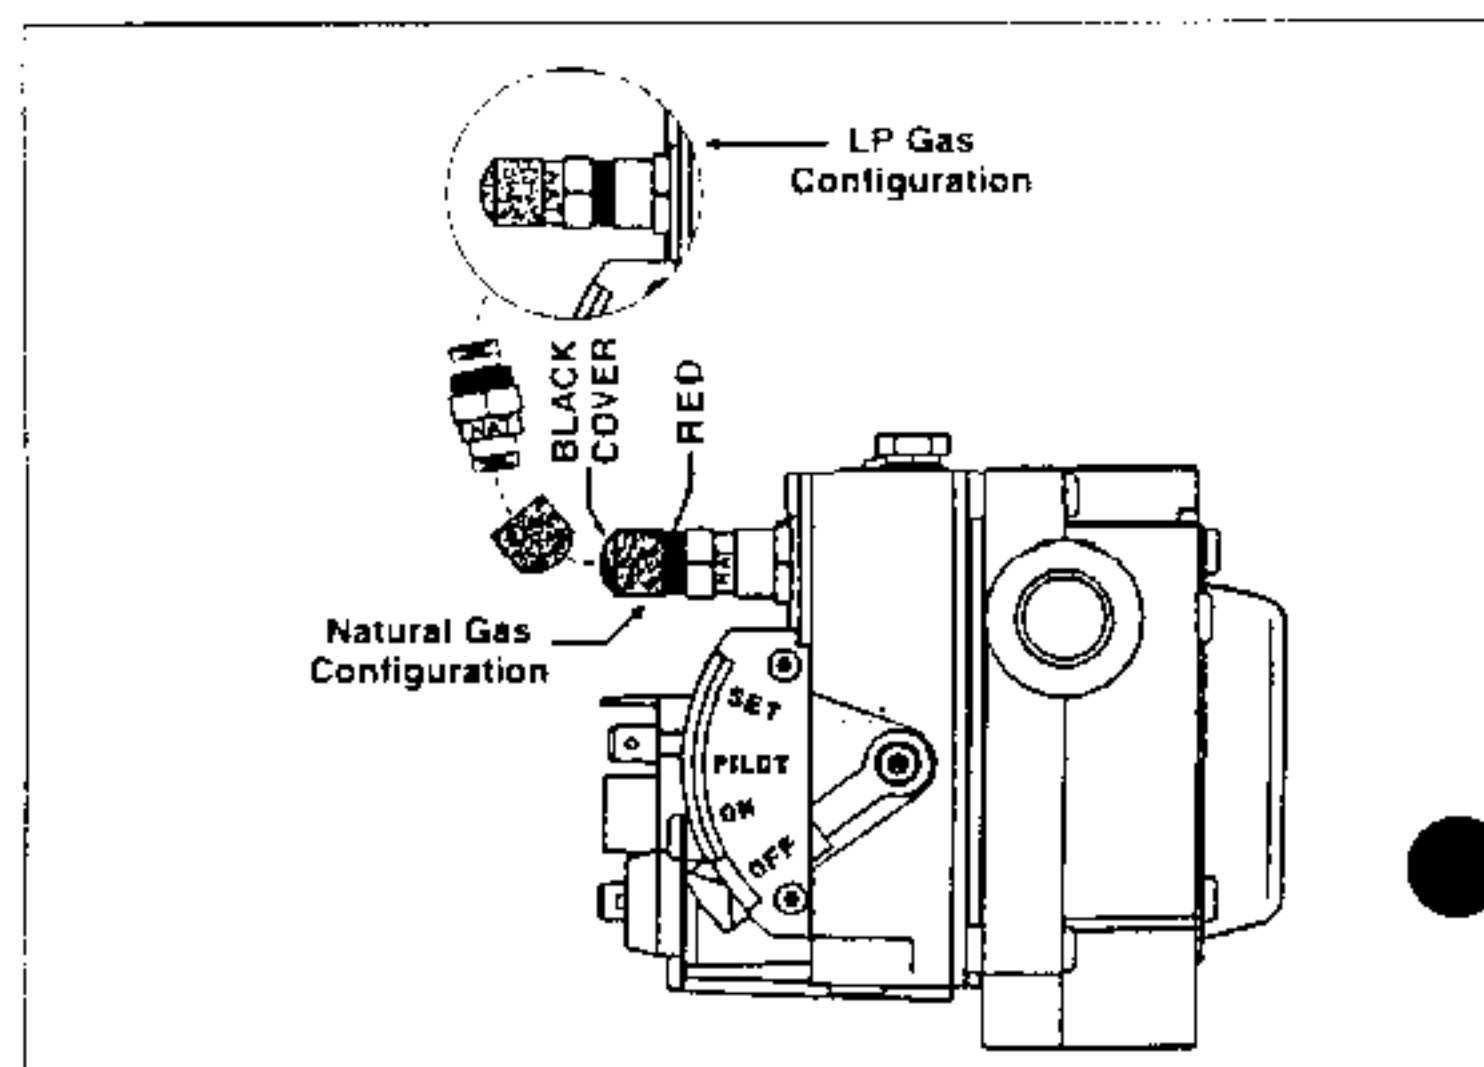

Figure 35.
- g. For the gas valve with the regulator converter (Figure 35), remove the black cover and unscrew the converter located on top of the gas valve. Invert the converter. (For "LP" the red ring will be located at the bottom and the "LP" stamping on the converter will appear right side up.) Then screw converter back into the regulator, hand tight plus 1/8 turn, and replace the black cover onto the converter top to protect the threads.